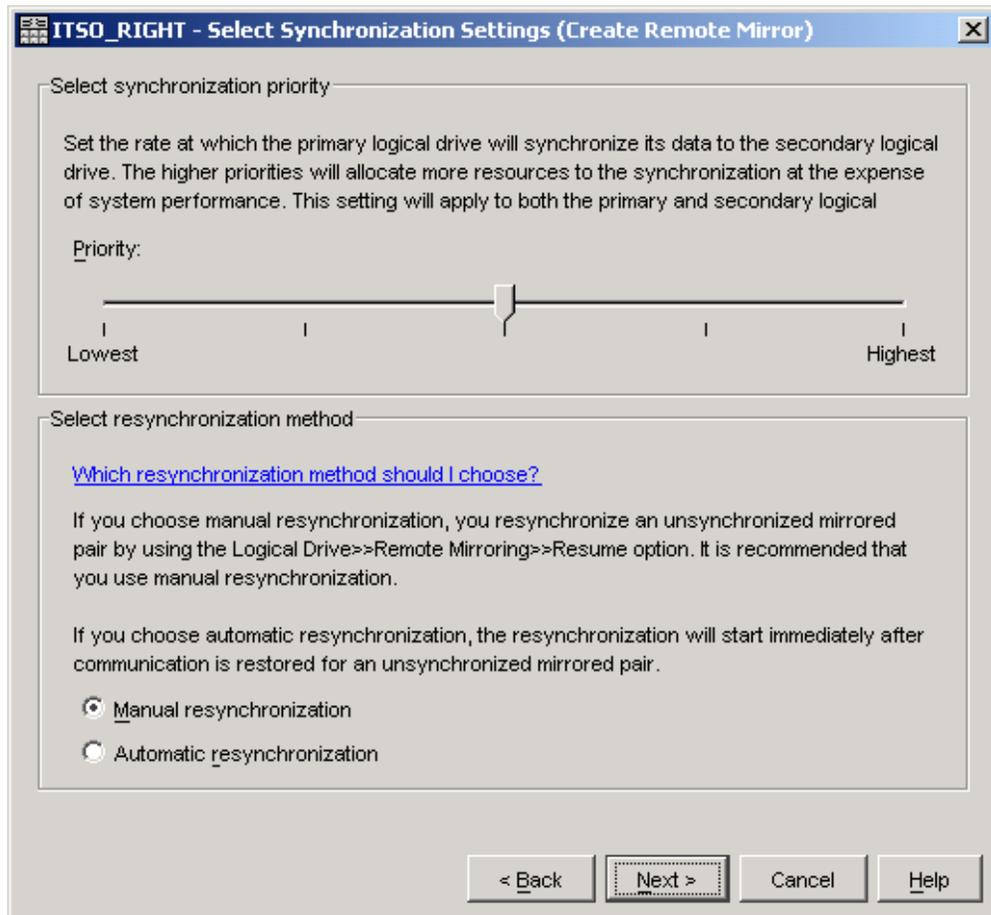

Figure 8-31 Create Remote Mirror: Set Synchronization Priority
6. The next window prompts you to set the synchronization priority (Figure 8-31). Use this window to set the rate at which the controller owner of the primary logical drive will synchronize data with the secondary logical drive. The controller owner of the primary logical drive uses the synchronization priority, but a synchronization priority is also set on the secondary logical drive at this time (in case it is promoted to a primary logical drive, in a role reversal). Refer to 8.5.5, “Data synchronization priority” on page 467.